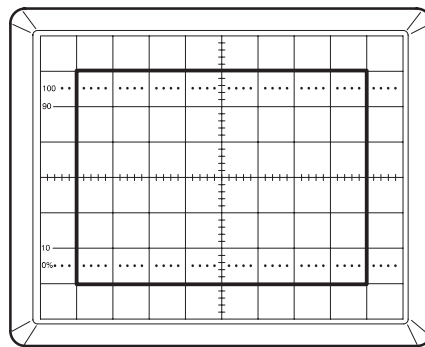
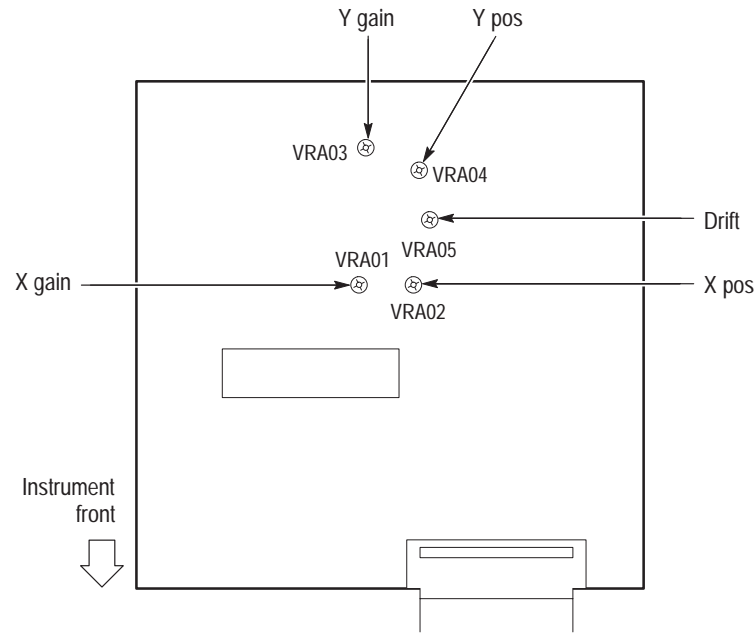

Figure 12: Cursor calibration display
Figure 13: Control and I/O board (viewed from the instrument top)
To locate the adjustments for the following procedures, refer to Figure 13. The Control and I/O board occupies the top left-hand corner of the instrument.
2. On the Control and I/O board, adjust the following potentiometers to position the alignment square as shown in Figure 12. See Figure 13 for the adjustment locations.